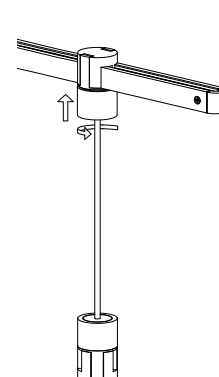

Fig. 12
3. Press the **Hanger Rod** up against the Hanger Hub and screw on the **Hanger Sleeve** (Fig. 12). Be sure that the brass contacts on the Power Bar Hanger Hub are touching those on the Hanger Rod. **NOTE: Do not fully tighten the Hanger Sleeve yet.**